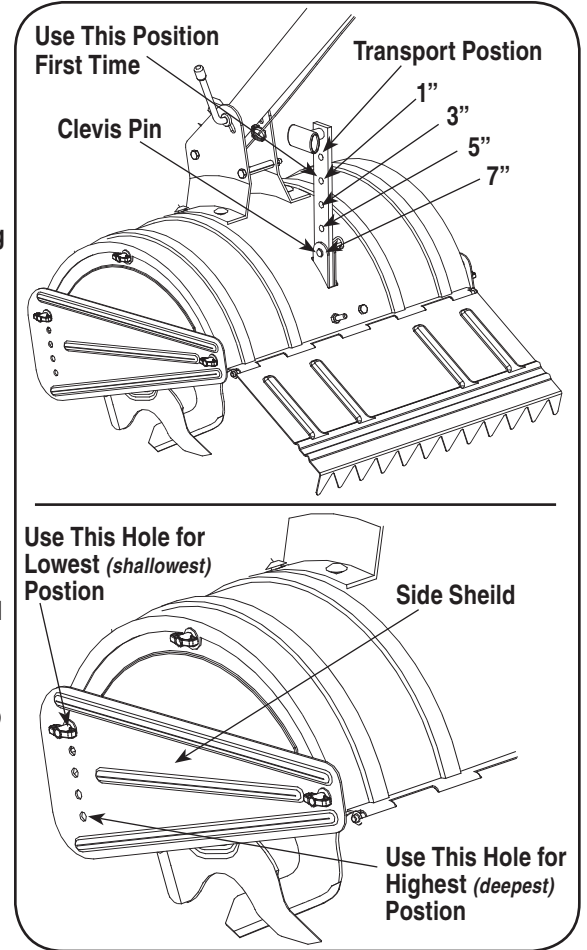

Figure 5-1
- When using the tiller for the first time, use the second adjustment hole from the top (1" of tilling depth). See Figure 5-1.
To adjust the depth stake, remove the clevis pin and hairpin clip. Move the depth stake to the desired setting and secure with the clevis pin and hairpin clip. See Figure 5-1.